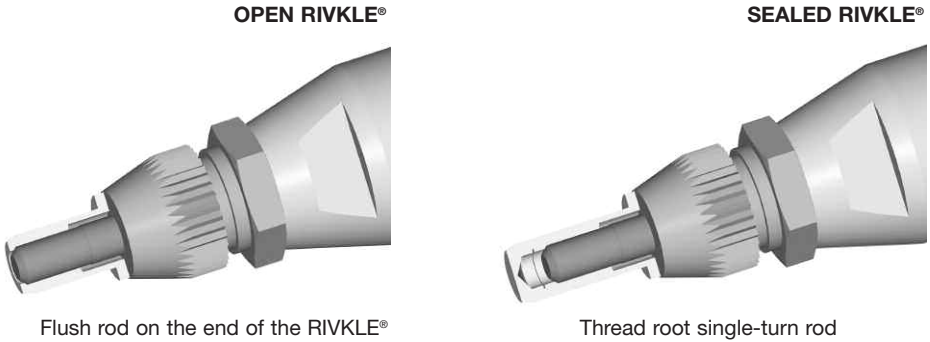

Figure 9 - Adjustment of the anvil position
- The position of the anvil should be adjusted as shown in figure 9.
- After adjustment, tighten the anvil locknut (2) to 10 Nm.